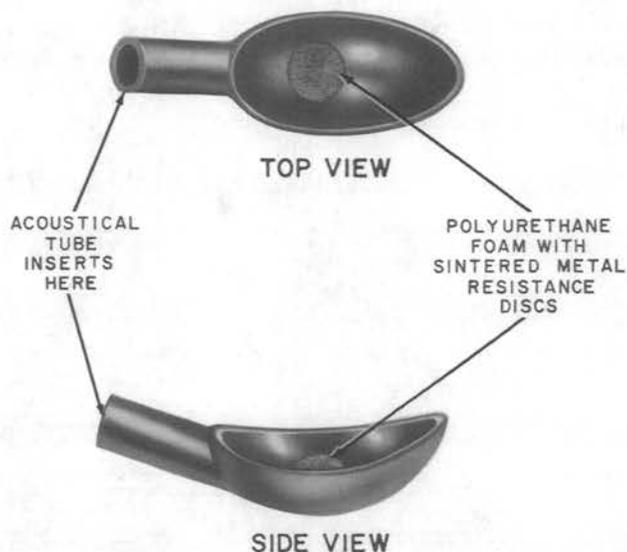

Fig. 1—Acoustic Coupler, KS-19796 L52 (PAC1)
1.03 The acoustic coupler (Fig. 1) is a small spoon-shaped rubber device which interposes in the transmission path a small piece of polyurethane foam and two sintered-metal acoustic resistance discs. This device, fitted on the speaking end of